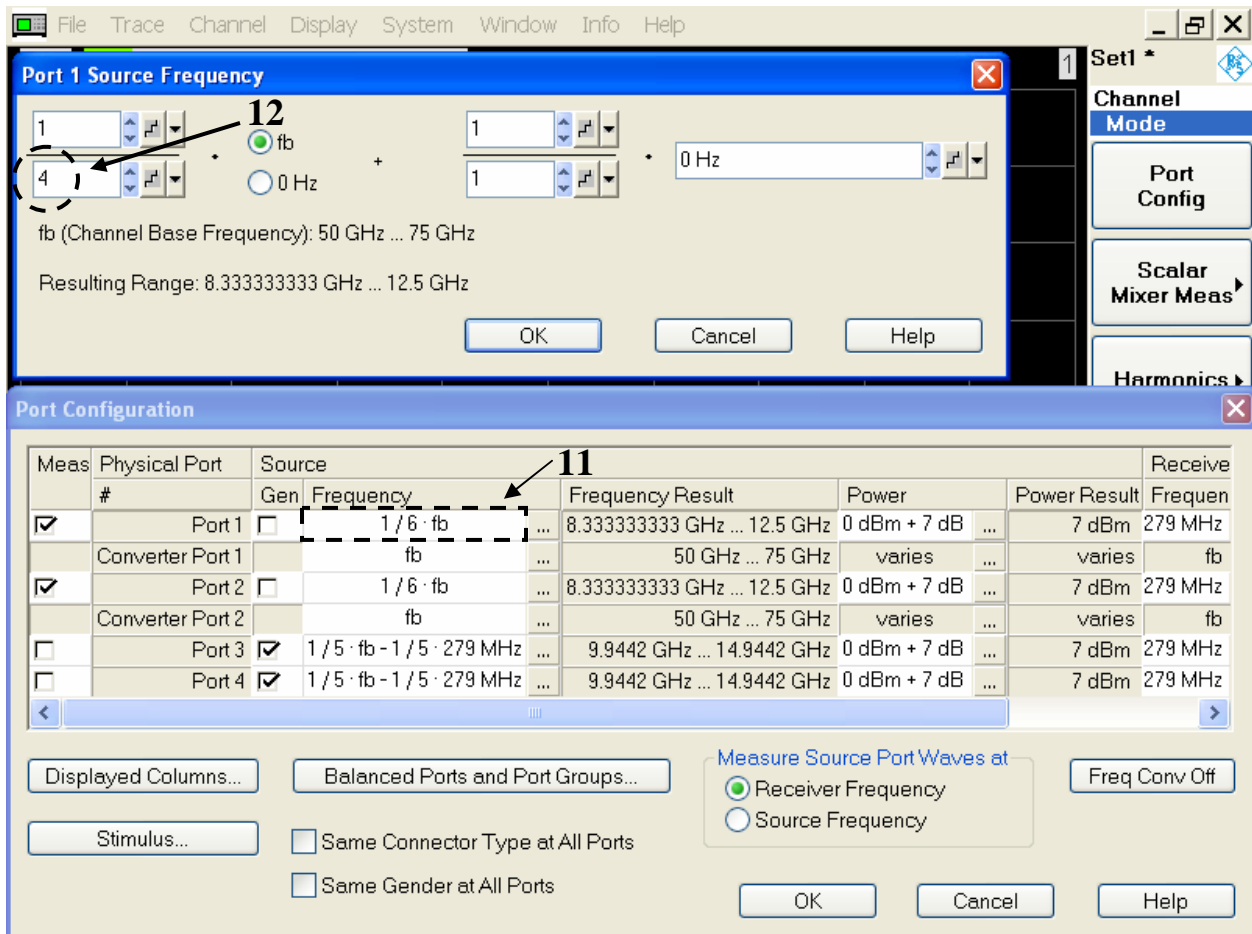

Figure 7 – Configured RF Port 1 Multiplication Factor in Configuration Table
11. Click on the cell under frequency column next to Port 1 without a check mark to change the RF multiplication factor $1/6 \text{ fb}$ (Figure 7).